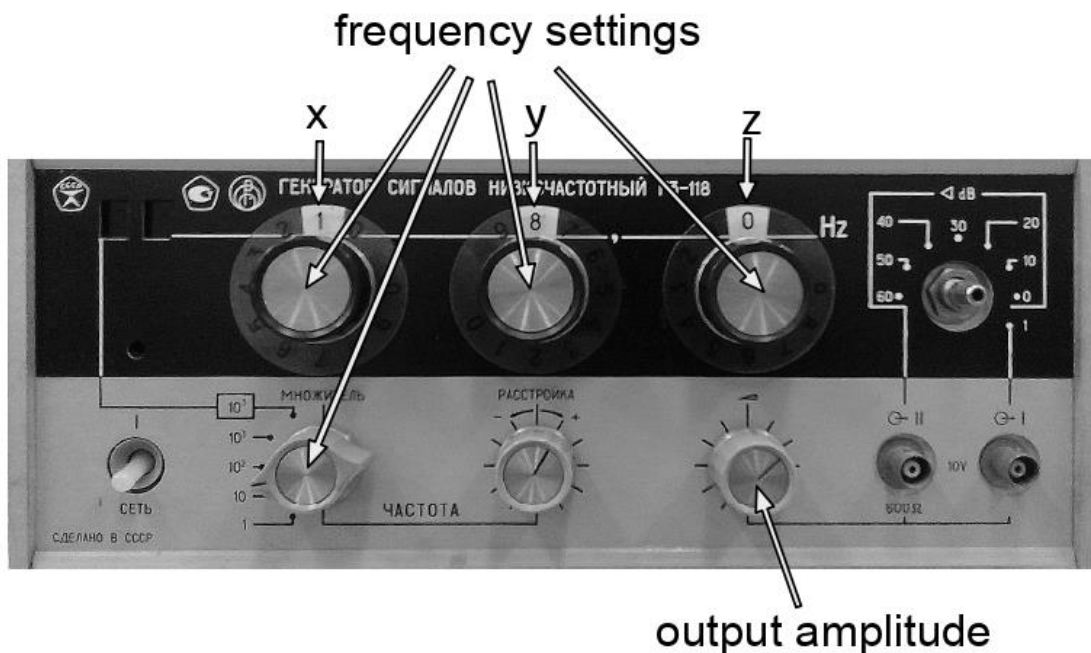
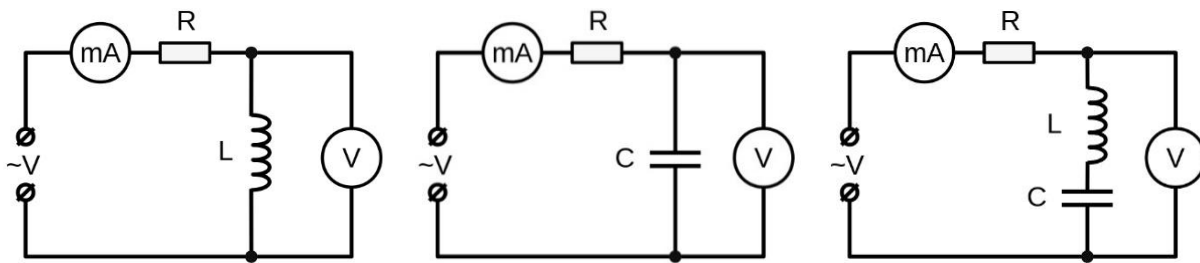

Figure 451.1. Generator
Figure 451.2. Circuits
The generator of harmonic oscillations “Г3-118” is connected to the terminal labelled “~V” in all circuits (Fig. 451.1). The generated frequency is derived as  $f = (xy.z \times \text{multiplier}) \text{ Hz}$ . In this figure,  $f = 18.0 \times 10^2 = 1800 \text{ Hz} = 1.8 \text{ kHz}$ . Set the generator output amplitude to its maximal value. The voltmeter “V” and the milliammeter “mA” should be set to the appropriate measurement mode (Fig. 451.2). The circuits can be modified by setting and removing jumpers into/from pins labelled **JP1–JP3**. A jumper (a piece of plastic-insulated conductor) closes a circuit when it is placed over the pins.
1. Assemble the electric circuit according to Fig. 451.2 (left), where  $L$  is a coil with the inductance  $L$  to be measured and a known resistance of  $R_0 = 10 \Omega$ , and  $R$  is a constant resistance of  $220 \Omega$ .
1. Assemble the electric circuit according to Fig. 451.2 (centre) with capacitor  $C$  of unknown capacity  $C$ .
1. Assemble the electric circuit according to Fig. 451.2 (right).